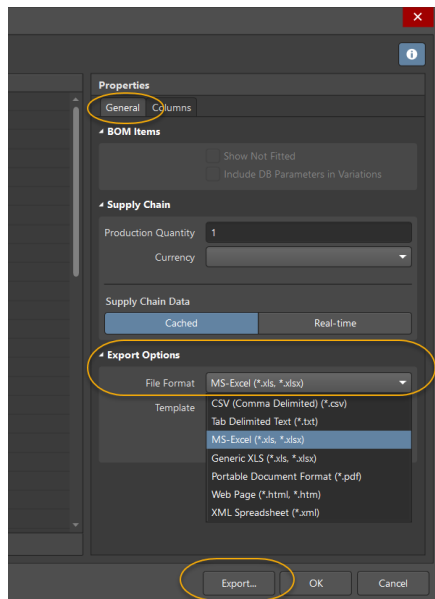

Figure 3. BOM export options
13. Under the *Export Options* from the *General* tab, select **MS-Excel (*.xls)** as the file format as shown in Figure 3. Select **Export** to generate the report.